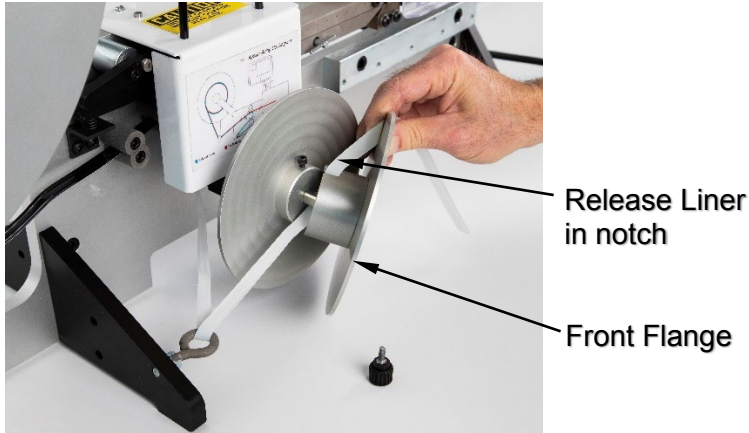

Figure 3.7
- N. Place the release liner in the notch on the Spooler Flange. (Figure 3.7)